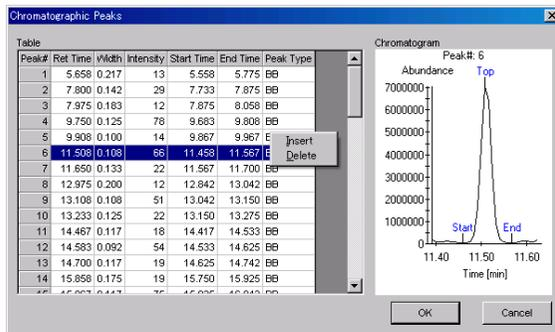

Fig. 5-23 Deleting and adding peaks
- (4) Select [PyGC-MS] - [List Results] to display the total ion chromatogram and the retention times of all integrated peaks (Fig. 5-23). If undesired peaks are integrated, they can be deleted by selecting the row of that peak, followed by right-clicking to display a pop-up menu, select [Delete]. To insert a new peak right below the selected row, select [Insert] in the pop-up menu.